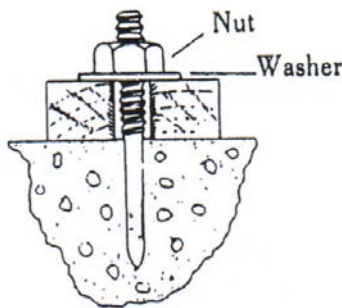

Fig. 22
E. Fastening removable items or materials to concrete. (see Fig. 22).
The same general considerations apply as when fastening removable items or materials to concrete (Fig. 22). It is best to use a stud with a knurled shank and to be sure that the fastener point fully penetrates through the back side of the steel base material for greatest holding power.